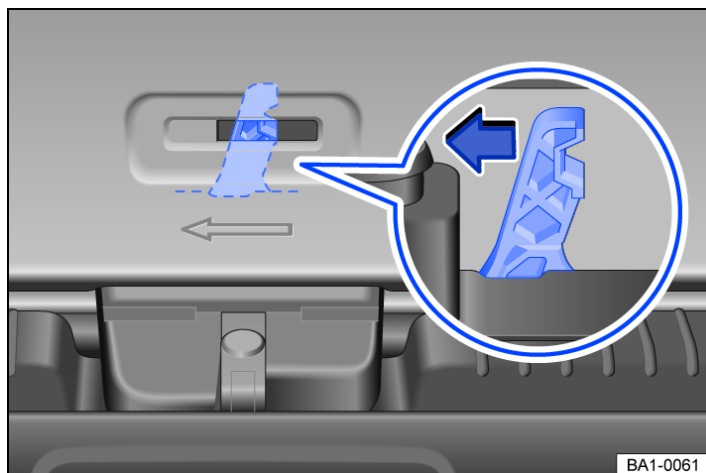

Fig. 1 In the luggage compartment: service opening in the boot lid.
- Insert a suitable object into the service opening in the boot lid → *Fig. 1* and press the release lever in the direction of the arrow.